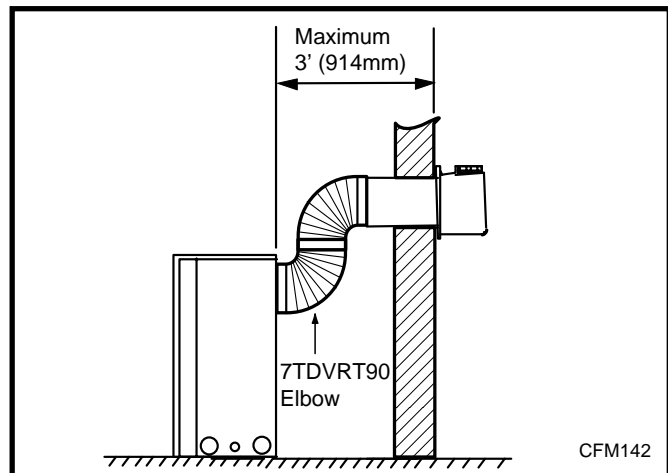
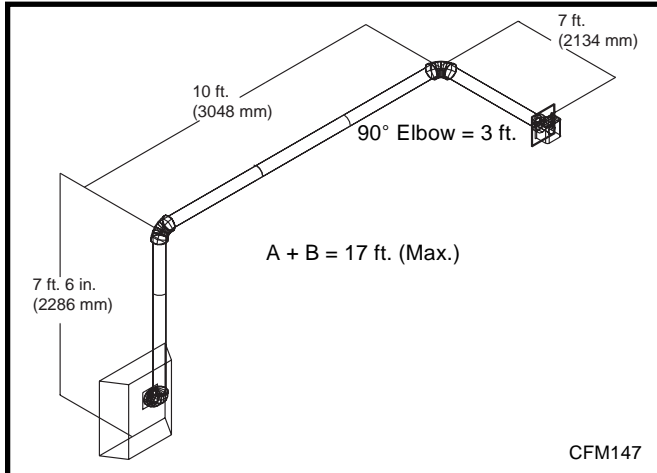

Fig. 19 Maximum horizontal vent run.
Fig. 20 Maximum vent run with elbows.
- If a 90° elbow is used in the horizontal vent run (level height maintained) the maximum horizontal vent length is reduced by 36" (914 mm). (Fig. 19) This does not apply if the 90° elbows are used to increase or redirect a vertical rise. (Fig. 20)